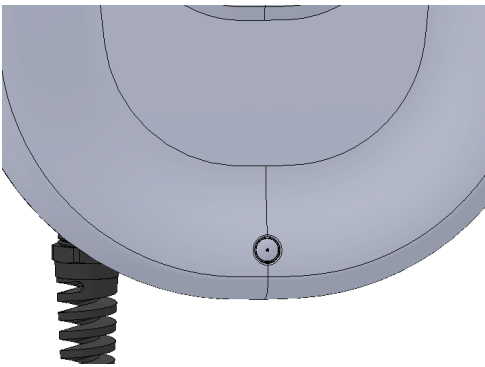

Figure 26
- On the Base Unit assembly, remove the rubber plug at the Bottom screw location and then remove the M3X25 self tapping pan head screw using phillips screw driver as shown in Figure 26.